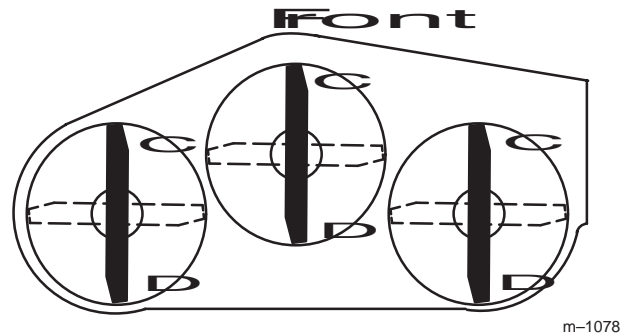
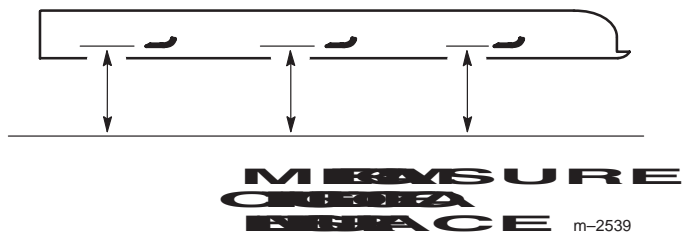

Figure 41
Figure 42
4. Position one blade front-to-rear (Fig. 41). Measure at C and D locations (Fig. 41) from a level surface to the cutting edge of the blade tips (Fig. 42).